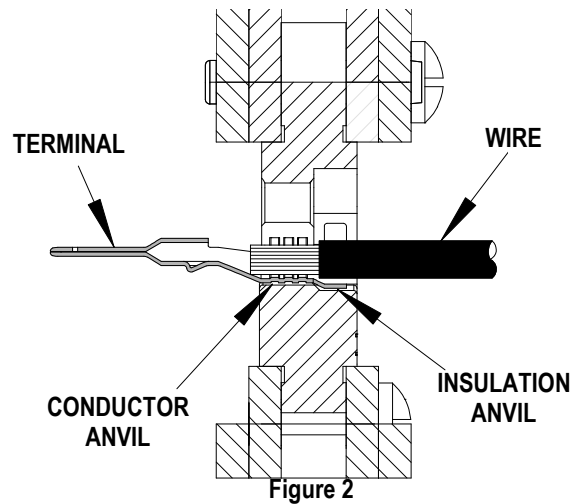

Figure 2
4. Place a pre-stripped wire into the terminal (see Scope chart for recommended strip lengths). Position the wire so the conductor lies in the conductor grip. See Figure 2.